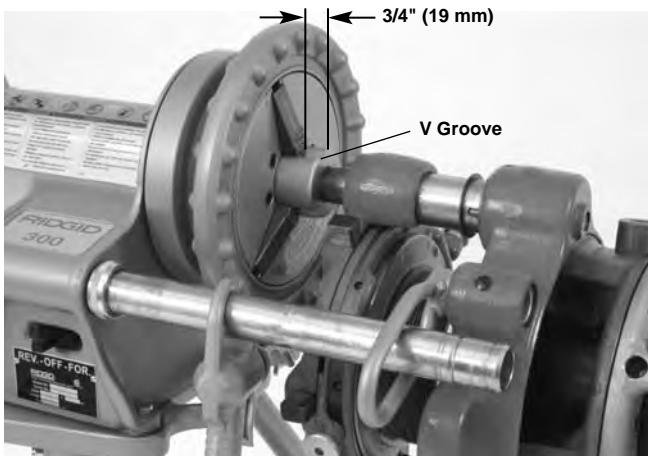

Figure 12 – Locating Drive Bar To Allow Oiling Space
- Use appropriate equipment to lift the geared threader and place over the end of the pipe orienting one jaw of work-holder upward. Lifting by hand must be done by at least two people utilizing the carrying handles. Be aware that the 141 weighs 93 pounds (42 kg) and the 161 weighs 158 pounds (72 kg). Leave approximately $\frac{3}{4}$ " (19 mm) of the drive bar exposed in front of the chuck to allow space for oiling (Figure 12). Securely tighten chuck jaws into three "V" shaped grooves in the head of drive bar. Close the rear centering head onto drive bar. Make sure that the geared threader and power drive are stable and secure.
- Use appropriate equipment to lift the geared threader and place. Lifting by hand must be done by at least two people utilizing the carrying handles, be aware that the 141 weighs 93 pounds (42 kg) and the 161 weighs 158 pounds (72 kg). Leave approximately $\frac{3}{4}$ " of the drive bar exposed in front of the chuck to allow space for oiling (Figure 12). Securely tighten chuck jaws into three "V" shaped grooves in the head of drive bar. Close the rear centering device onto drive bar. Make sure that the geared threader and power drive are stable and secure.